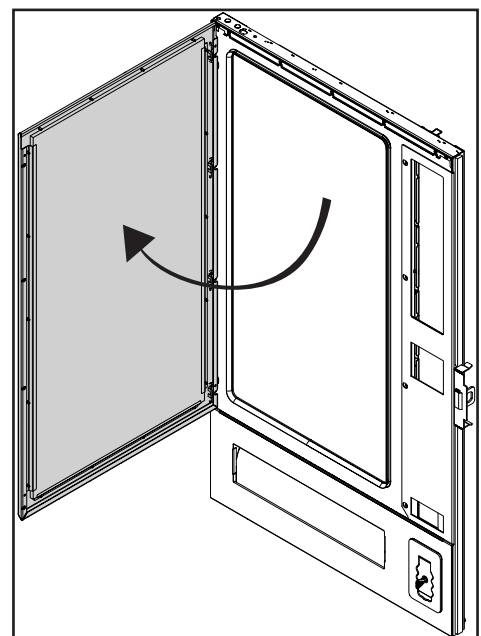

Figure 9
4. Open the impact protection (Fig. 9)